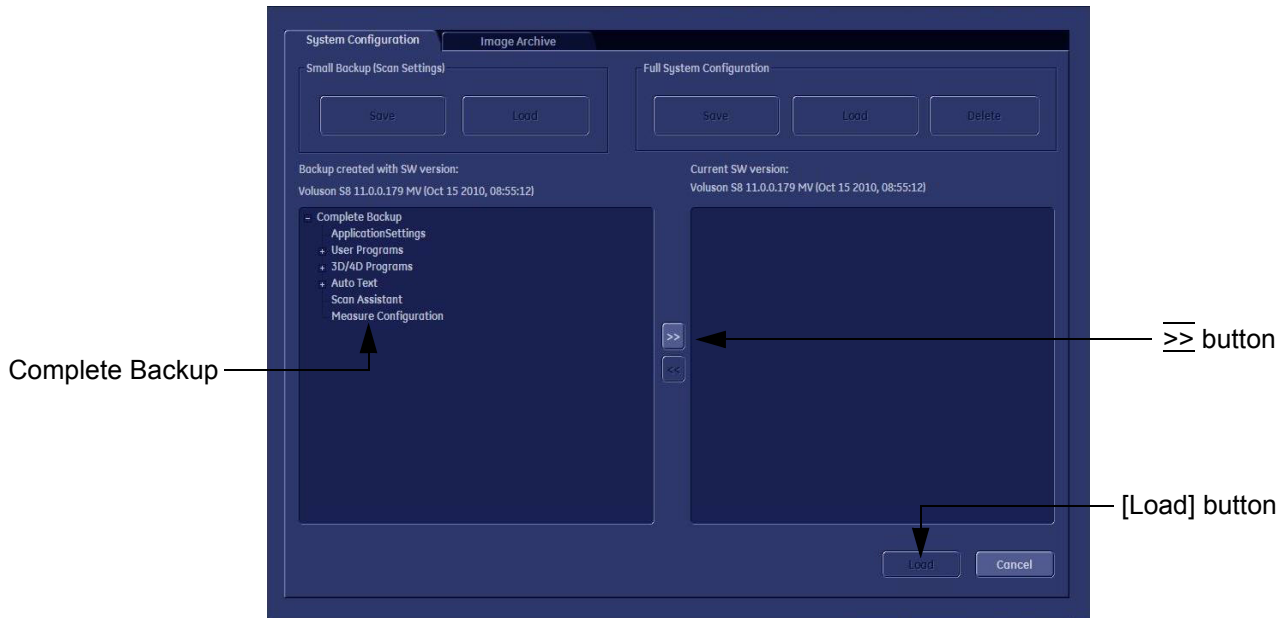

Figure 4-23 Load Backup Data
- 2.) Select the “**Complete Backup**” (marked blue; see: Figure 4-23 below) and click the >> button to copy the Complete Backup into the Load Data field.